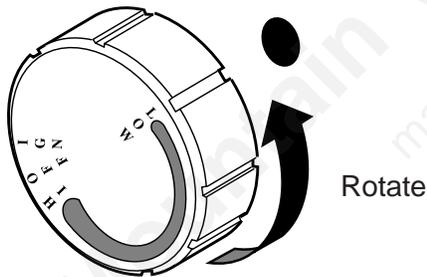

Figure 48 - Rotation of Control Knob
6. Turn the gas control knob counterclockwise  to the IGN position. See *Figure 48*. Push in and hold control knob for 5 seconds.
10. Turn control knob to any position between LOW and HIGH. The knob position controls the thermostat temperature. Refer to *Figure 48*.